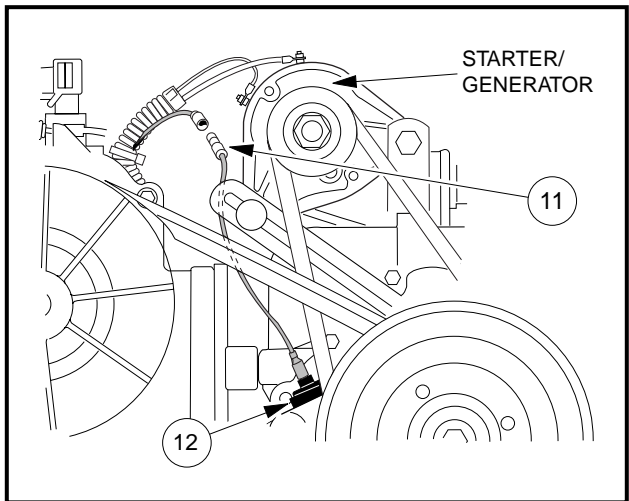

Figure 13-42 Oil Level Sensor Wire
1. Remove yellow jumper wire (11) from cord connector (12) **(Figure 13-42, Page 13-22).**